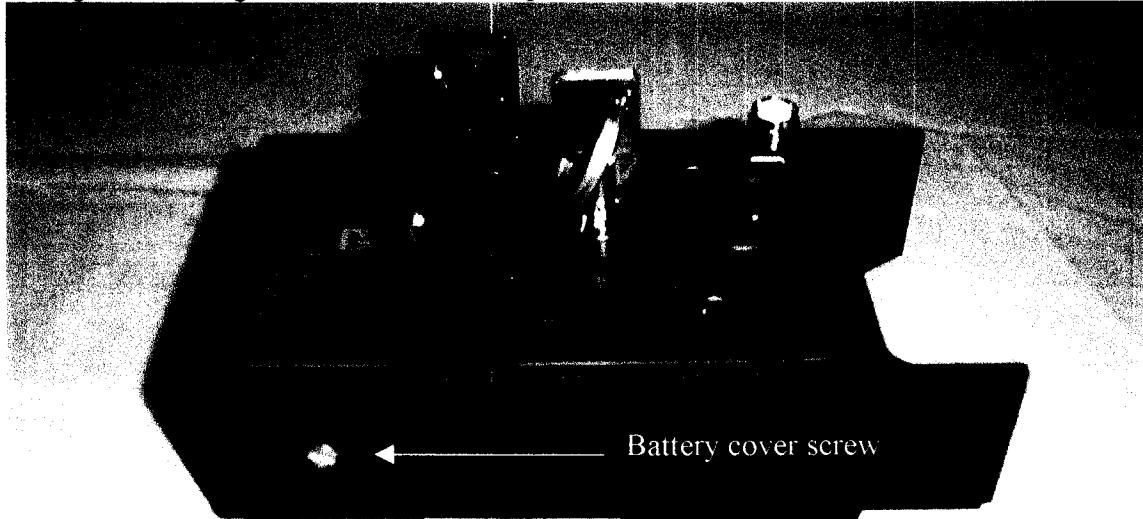

Figure 7. Battery cover screw removal
- a. Turn the battery cover screw with a screwdriver or coin counterclockwise, as shown in figure 7 and figure 8. The screw is captured in the cover.